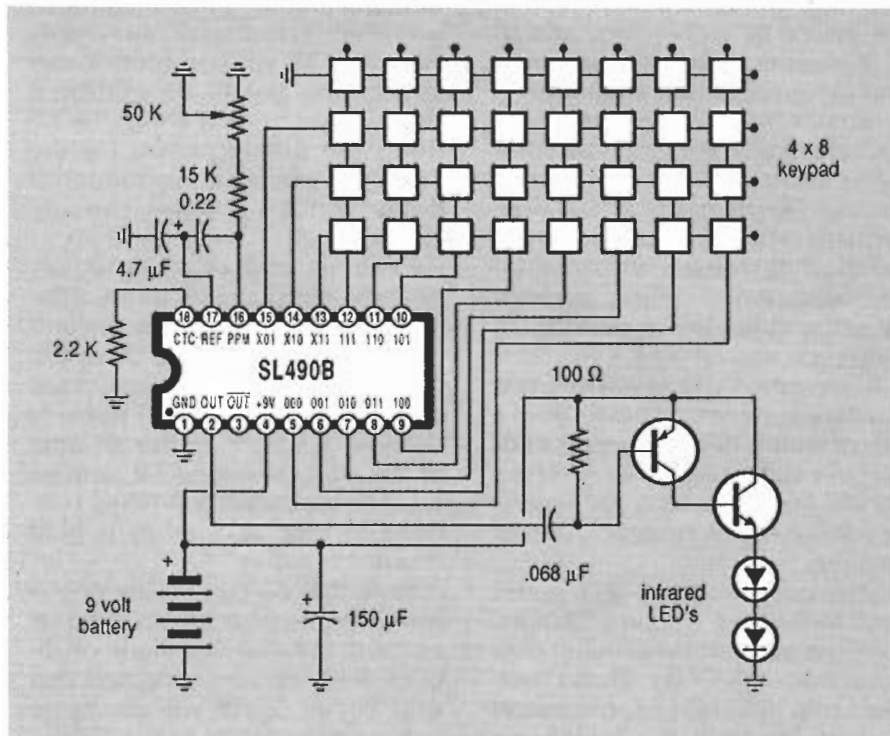

FIG. 1—A HANDHELD REMOTE-CONTROL transmitter can send up to 32 different commands. Each command outputs a repeating code of six brief light pulses.
with the SL490-B remote-control transmitter shown in Fig. 1. The intended use is for a hand-held, battery-powered infrared remote-control transmitter, as are popular with TV sets and VCR's.
• **Simple Relay Circuit.** Figure 1 illustrates the simplest type of control circuit. It contains a common dc relay that is driven by a transistor. The single-pole, double-throw relay contacts can be used to switch power to any type of load circuit that does not exceed the 2-ampere contact rating of the relay. A readily available relay is specified in the Parts List, but you can substitute another relay that has
The circuit shown in Fig. 1 offers momentary operation because the relay will be energized only during the time the transmitter pushbutton for the channel to which the relay is assigned is held down. Releasing the transmitter button causes the relay contacts to spring back to the unenergized position.